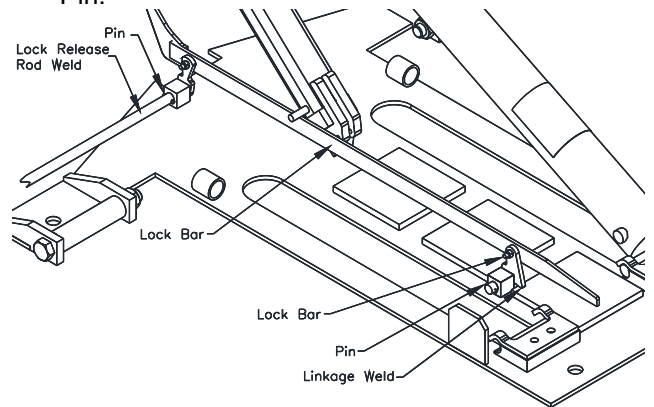

Fig. 6 Lock Release Bar
21. For **Flush Mount only**, slide lock rod support bracket over free end of lock rod before the handle is attached to the end, See **Fig. 6**. Install the handle using the Spring Pin. *A/so*